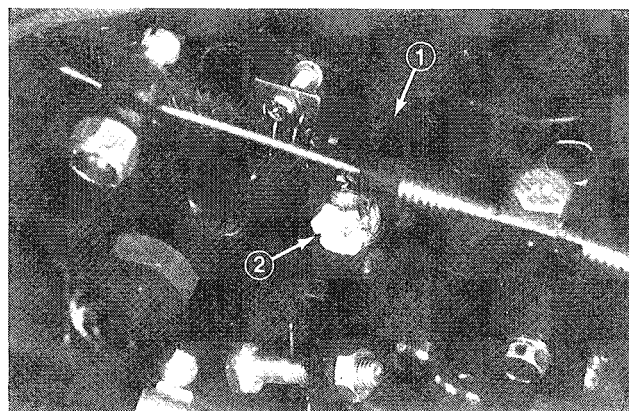

Figure 28
4. Open the air bleed screw on the fuel injection pump (Fig. 28) with a 12 mm wrench.